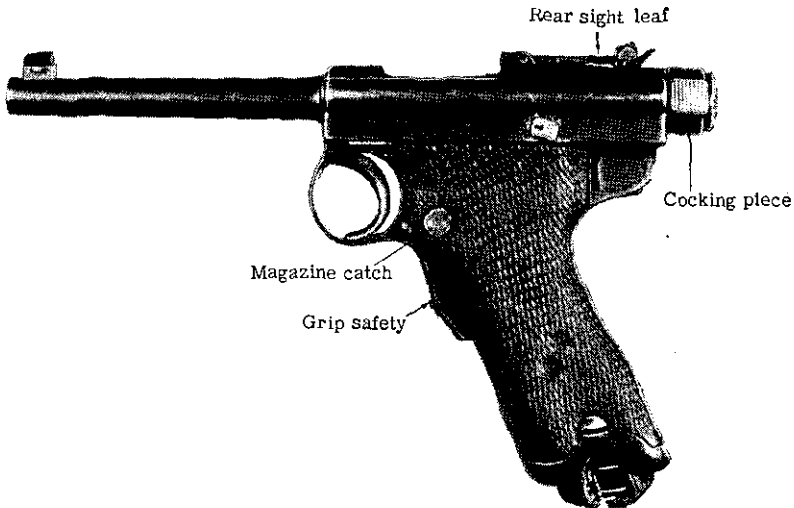

Figure 2.—*Nambu* 8-mm pistol (left side).
The *Nambu* 8-mm pistol (fig. 2), which is popularly called the *Nambu* pistol from the name of its designer,
- (1) The rear sight leaf.
- (2) The horizontal bulge (recoil-spring housing) on the left side of the receiver (see figs. 2 and 4).
- (3) The slot cut for the wooden combination shoulder-stock-holster at the heel of the butt.
- (4) The grip safety just below the trigger guard on the butt.